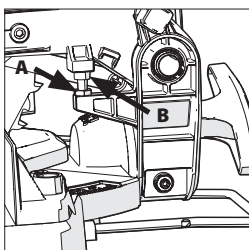

Fig. 12A + 12B
- Loosen the locknut on the downward travel stop screw with a 10mm spanner (Not supplied) (**Fig. 12A**).